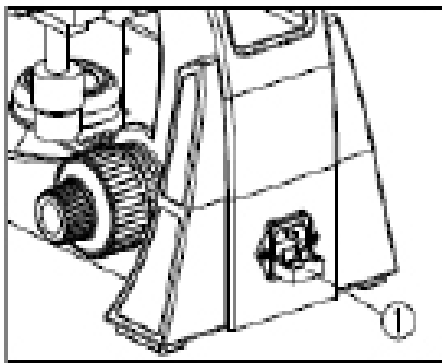

Fig. 18
Turn the main switch to "O" (OFF) and unplug the microscope before replacing the fuse. Remove the power cord. Pull the fuse base (1) until the fuse can be removed from the fuse base. Install a new fuse and reinsert the fuse base thoroughly (See Fig. 18).